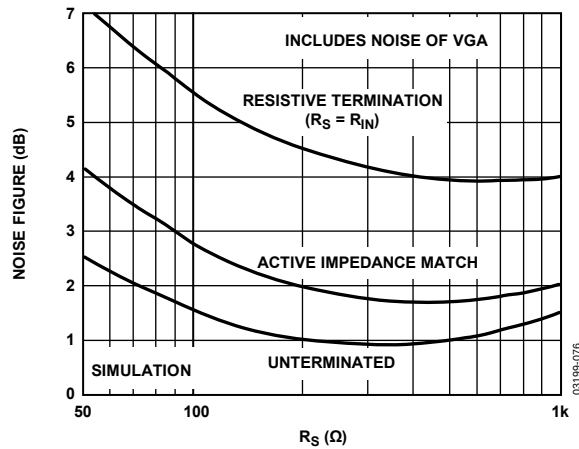

Figure 37. Noise Figure vs. R_S for Resistive, Active Matched and Unterminated Inputs, Gain = 1 V
The primary purpose of input impedance matching is to improve the system transient response. With resistive termination, the input noise increases due to the thermal noise of the matching resistor and the increased contribution of the LNA's input voltage noise generator. With active impedance matching, however, the contributions of both are smaller than they would be for resistive termination by a factor of $1/(1 + \text{LNA Gain})$. Figure 37 shows the relative noise figure (NF) performance. In this graph, the input impedance was swept with R_S to preserve the match at each point. The noise figures for a source impedance of 50 Ω are 7.1 dB, 4.1 dB, and 2.5 dB for the resistive, active, and unterminated configurations, respectively. The noise figures for 200 Ω are 4.6 dB, 2.0 dB, and 1.0 dB, respectively.